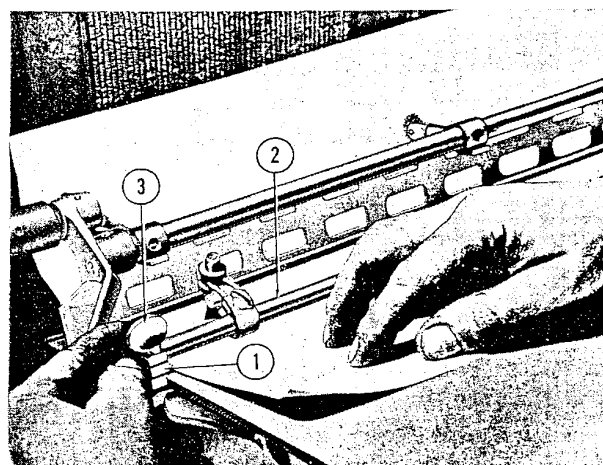
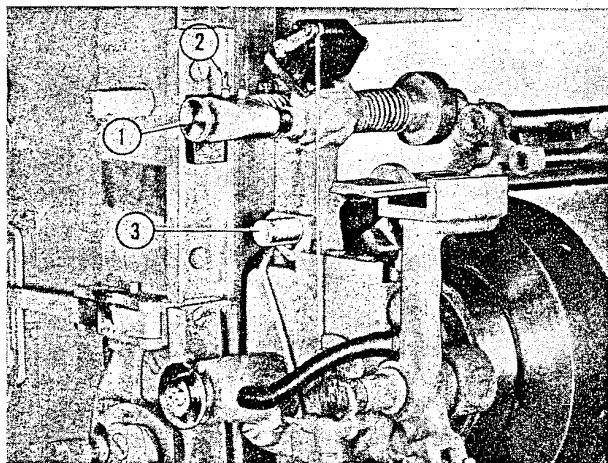

Figure 22—Setting Side Guide
Figure 23—Side Guide and Cylinder Brush Adjustment
(2) HOW TO POSITION SIDE GUIDE SHIFTING CAM AND SET SIDE GUIDES.—The left and right side guides, (1) figure 22, which attach to the side guide tube, (2) figure 22, are adjustable along the tube. Either the left or the right side guide is used, depending upon the particular job to be run. The position of the side guide along the side guide rod is dependent upon the side register requirements as measured from the form for the particular job to be run. A scale along the front edge of the transfer
(e) With sheet in this position, set side guide, (1) figure 22, against the side of sheet and tighten side guide thumb screw (3). A side guide micrometer adjusting screw, (1) figure 23, is provided for
finer side guide register. When this adjustment is used, be sure that the setting is locked by tightening thumb screw, (2) figure 23. Slide and secure opposite side guide (not to be used) to opposite end of side guide rod.
To adjust the brush tension, loosen the set screws, (3) figure 23, on each side of the cylinder frame, permitting the brush rod to be turned. To check the tension, place a sheet to be run on the cylinder packing; revolve the cylinder by hand until the sheet is in contact with the brush, and then move sheet. Brush tension on the sheet should be uniform across the full width of the sheet. After brush has been adjusted, tighten set screws.